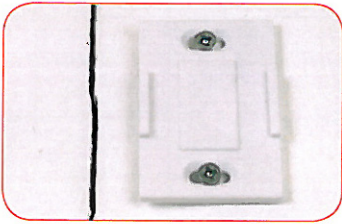

figure 1
1. Align the bottom plate parallel to the crack and fix with screws and rawl-plugs (size 6) and adhesive (figure 1).